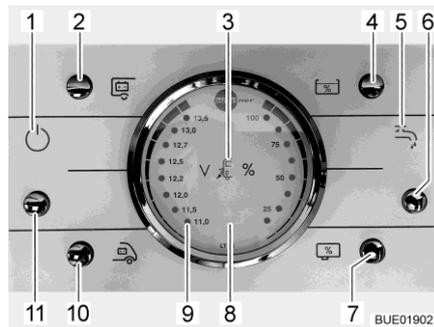

Fig. 204 Panel LT 96
The button (Fig. 204,11) switches the panel and the 12 V power supply to the living area on and off.
- Switching on:** ■ Press the button (Fig. 204,11): The 12 V living area power supply is switched on. The indicator lamp (Fig. 204,1) lights up.
- Switching off:** ■ Press the button (Fig. 204,11): The 12 V living area power supply is switched off. The indicator lamp (Fig. 204,1) goes out.
With the V/tank gauge (Fig. 204,8), note the left scale. The gauge automatically lights up as soon as a button is pressed.
- Press the button (Fig. 204,10): The battery voltage of the starter battery is displayed.
- Press the button (Fig. 204,2): The battery voltage of the living area battery is displayed.
With the V/tank gauge (Fig. 204,8), note the right scale. The gauge automatically lights up as soon as a button is pressed.
- Press the button (Fig. 204,4): The volume of water is displayed.
- Press the button (Fig. 204,7): The volume of waste water is displayed.
- Press the button (Fig. 204,6): The water supply is ON. The water pump indicator lamp (Fig. 204,5) lights up.
- Press the button (Fig. 204,6): The water supply is OFF. The water pump indicator lamp (Fig. 204,5) goes out.
The red "ALARM" warning light (Fig. 204,9) flashes as soon as the voltage of the living area battery falls below 11 V (measured under operation) and there is a risk of a total discharge.
The 12 V indicator lamp (Fig. 204,1) lights up when the 12 V main button (Fig. 204,11) is switched on.
The 230 V indicator lamp (Fig. 204,3) illuminates whenever line voltage is available at the transformer/rectifier input.